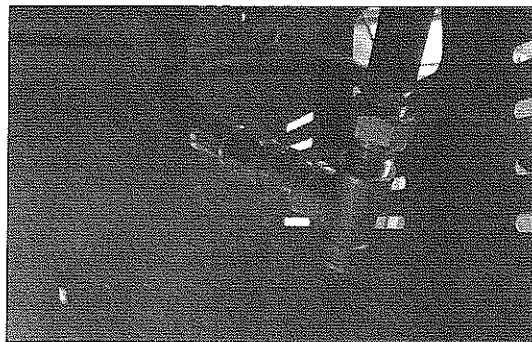

Fig 22
27. Attach one end of the supplied hose to the flare fitting on the side of the tee connector. (See Fig. 22) The other end of the hose will be attached to the side burner later.